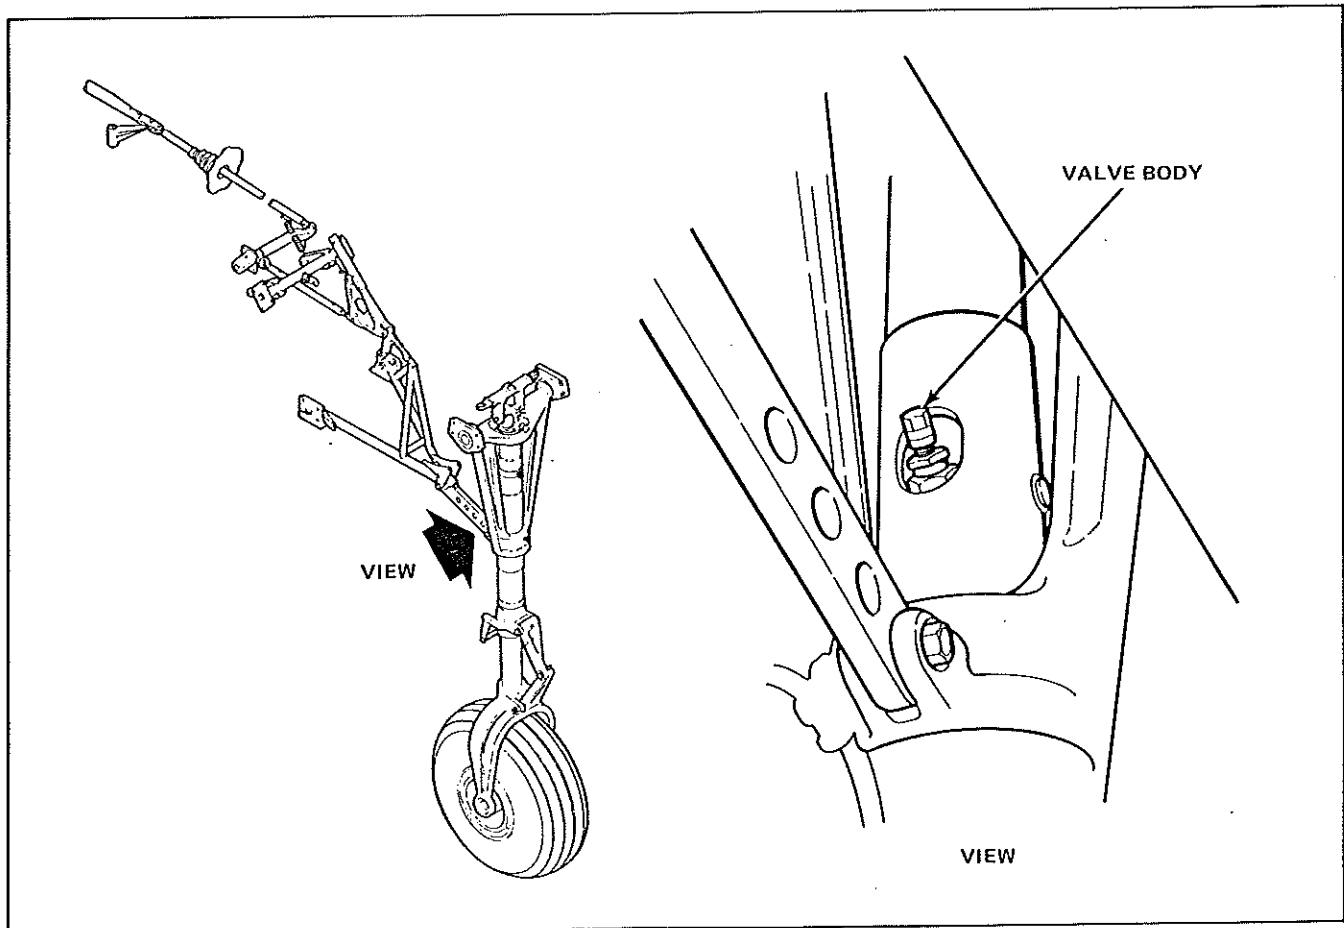

Figure 16 Servicing Nose Gear Shock Strut
2. Deflate the strut by loosening the valve body (Figure 16) a maximum of 2 1/2 turns.